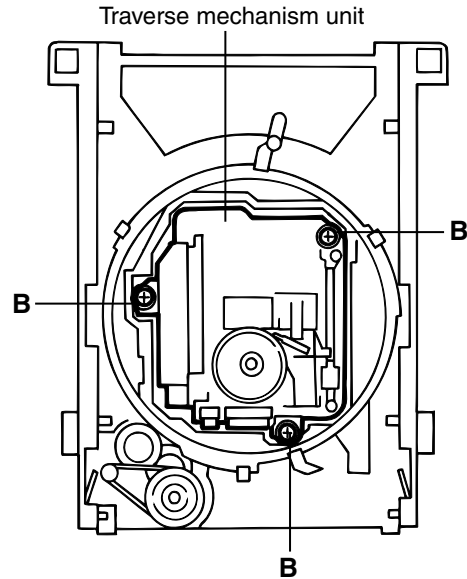

Figure 5
■ **Removing the traverse mechanism unit** (refer to Figure 5)